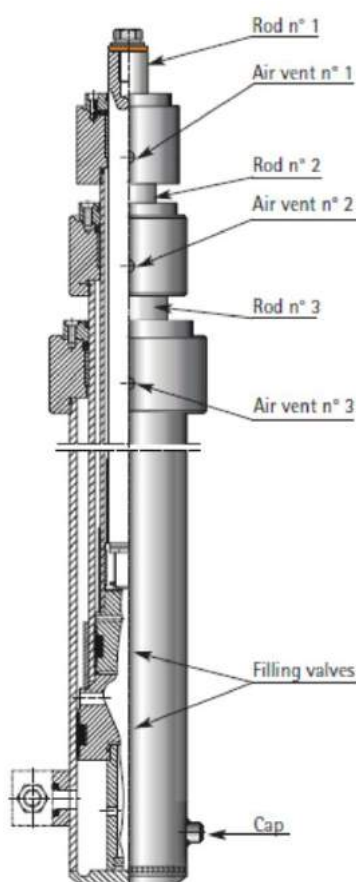

Figure 22 – Vents of the telescopic cylinders
- 3) Open all the vents on the cylinder heads (n°3 for 3 stages, n°2 for 2 stages – see Figure 22).